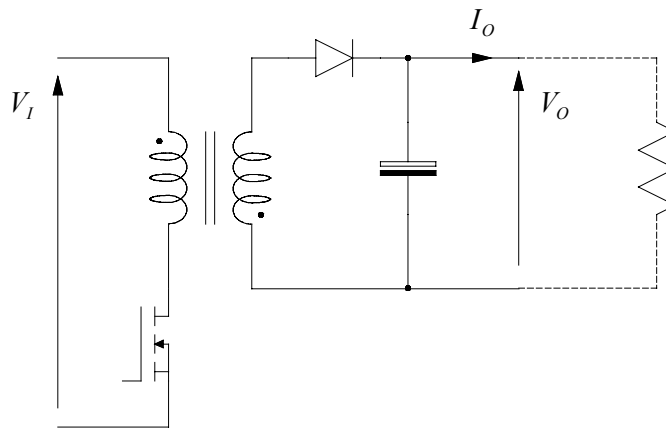

Figure 4 An isolated Flyback switch-mode power supply
3. (a) Figure 4 shows an isolated Flyback switch-mode power supply. Describe the operation of the circuit using sketches of the principal voltages and currents in discontinuous flux mode.